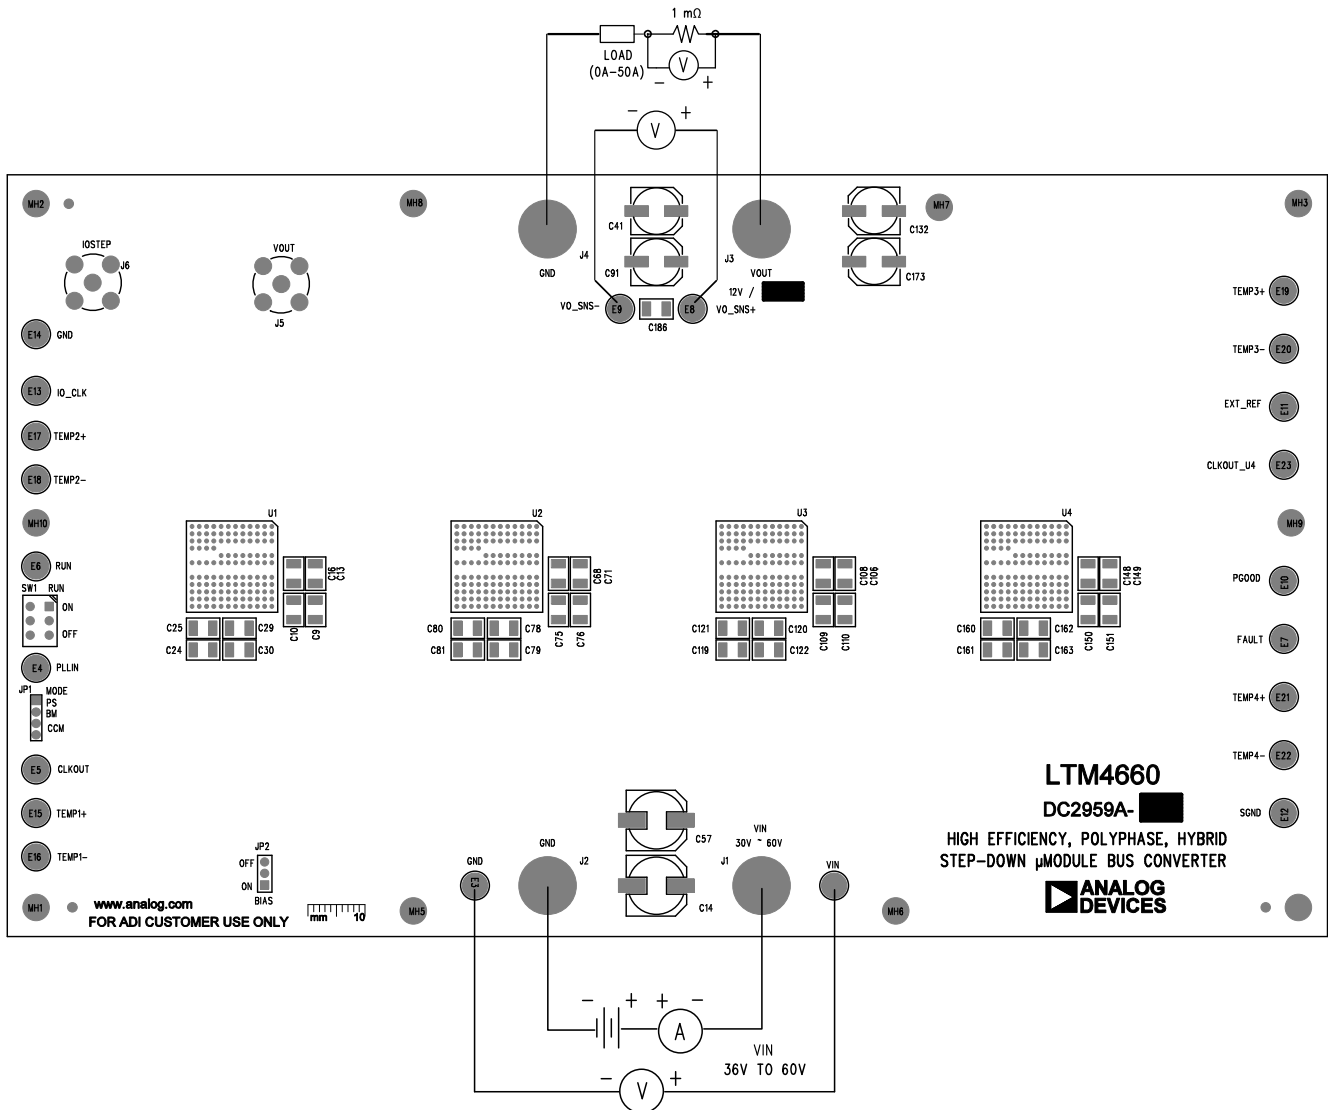

Figure 2. Proper Measurement Equipment Setup
Demonstration circuit 2959A-A is easy to set up to evaluate the performance of PolyPhase operation of the LTM4660. Due to the high input/output current, users should select the proper input supply/load/cable which can sustain the full load operation. See Figure 2 for the proper measurement equipment setup and follow the procedure below.
2. Connect the output load between V_{OUT} and GND (Initial load: no load). See Figure 2.